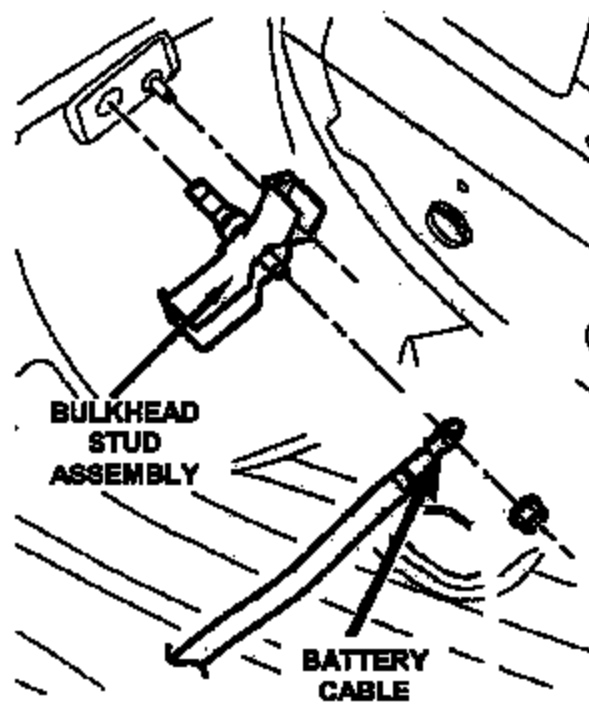

Figure 2
9. Inspect the battery cable bulkhead stud for signs of arcing and/or cross-threading (Figure 2). If the bulkhead stud is damaged, continue with **Section B – Replace Battery Cable Bulkhead Stud.**
10. Tighten the battery cable-to-bulkhead stud fastener to 80 in-lbs (9 N·m) (Figure 2).
5. Disconnect the battery cable from the bulkhead stud (Figure 2).
6. Remove the retaining nut for the bulkhead stud assembly and then remove and discard the bulkhead stud assembly (Figure 2).
8. Install the bulkhead stud assembly retaining nut (Figure 2), tighten the nut to 80 in-lbs (9 N·m).
9. Install the battery cable onto the bulkhead stud (Figure 2). Install a new battery cable nut (P/N 06101809) and tighten to 80 in-lbs (9 N·m).